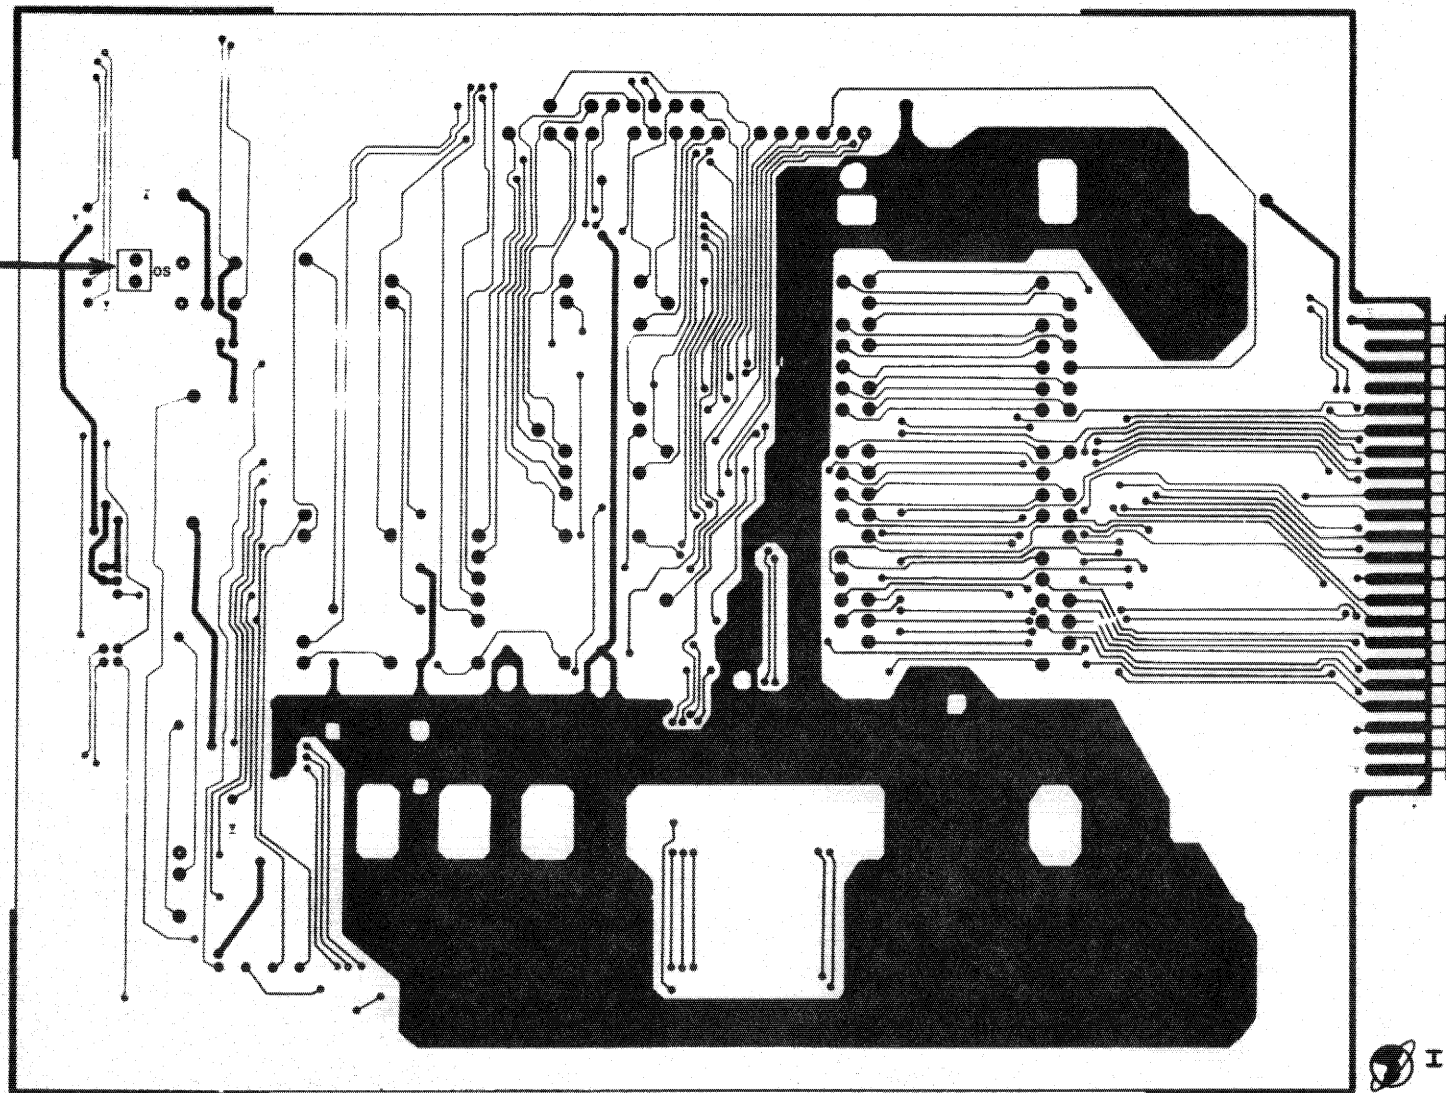

Figure 7.
6.04 The Base Board has a strapping option labeled "OS". Refer to Figure 7. "OS" causes the BY relays to operate when the front panel Mode switch is not in the On Line mode. The unit is shipped from the factory with "OS" strap omitted unless otherwise requested.